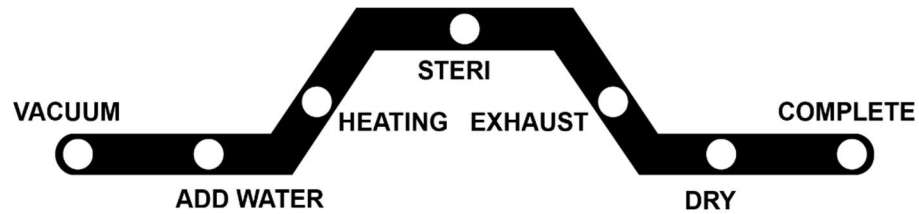

Figure 24
- D. Press the “ START ”  button. The sterilization temperature, sterilization time, and drying time will be displayed two times consecutively, and then the sterilizer will run the selected programs automatically. The program execution status will be displayed on the status indicator, as shown in Figure 24.